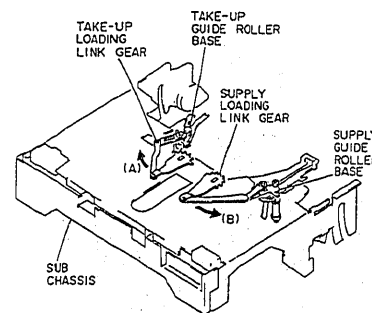

Fig. 2-45
- 1) Turn the take-up loading link gear in the direction of arrow (A) to release the engagement with the sub chassis. (See Fig. 2-45)
(2) Supply Guide Roller Base
- 1) Turn the supply loading link gear in the direction of arrow (B) to release the engagement with the sub chassis. (See Fig. 2-45)
- 1) Remove the take-up guide roller base. (See Fig. 2-45)
- 1) Remove the supply guide roller base. (See Fig. 2-45)